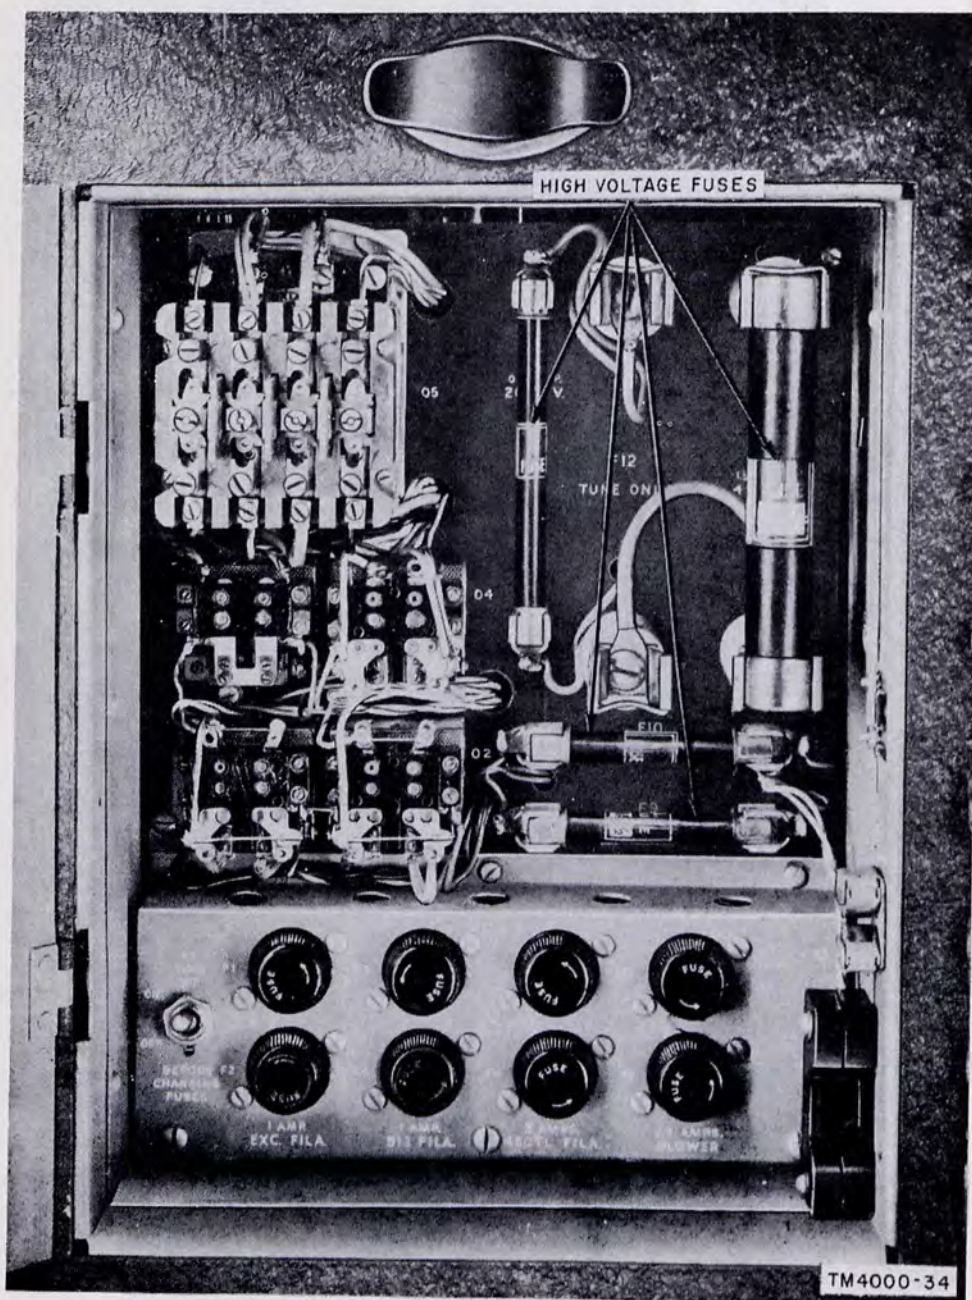

Figure 5. Transmitter fuse panel, showing high-voltage fuses.
f. Another danger point is the fuse panel. Note in figure 5 that the high-voltage fuses are several inches long to prevent the high voltage